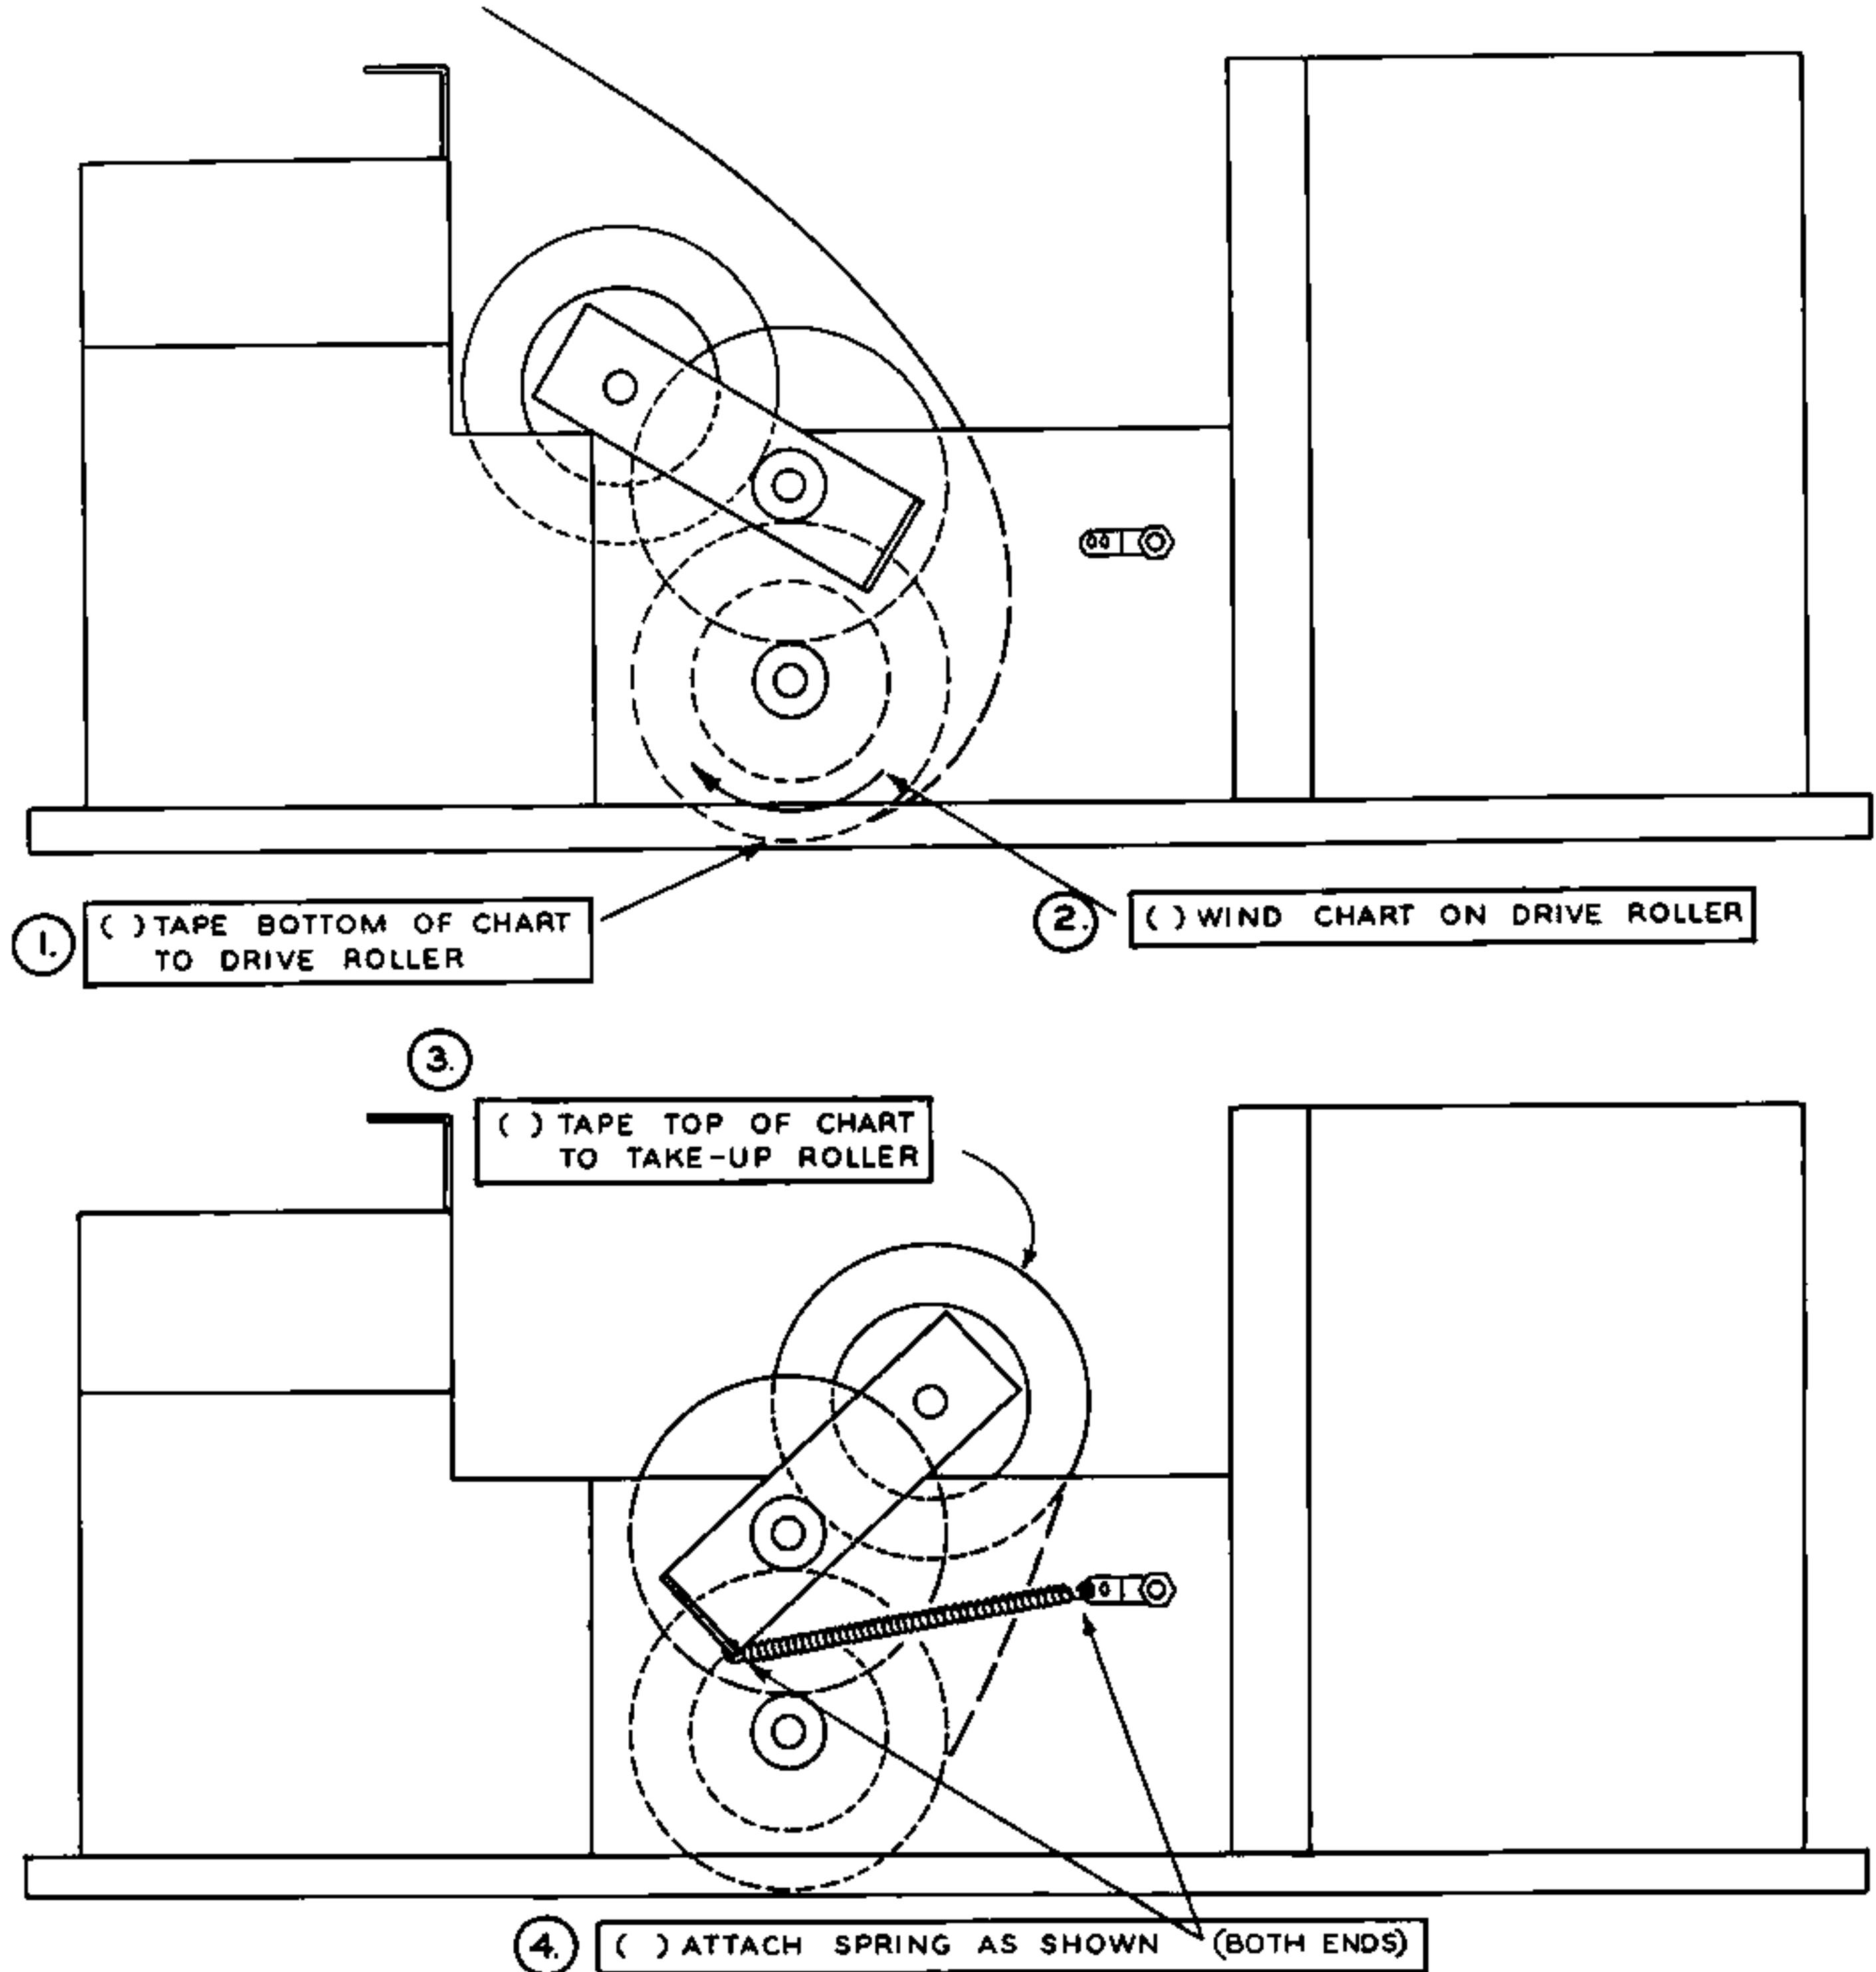

Figure 82
- ( ) Install the roll chart as directed by the steps in Figure 82.